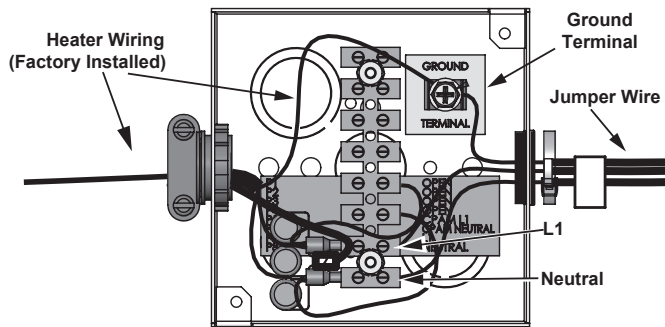
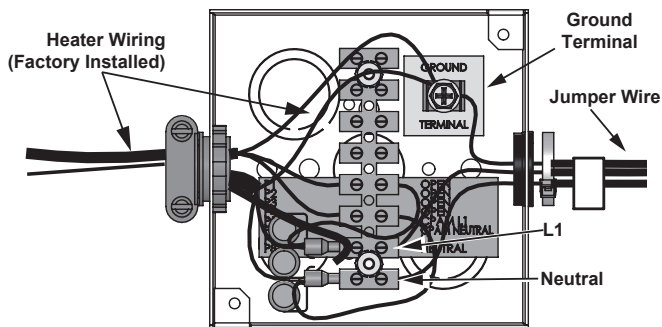

Figure 61. Junction Box (250 Gallon Models)
Figure 62. Junction Box (220 Gallon Models)
The 120-VAC hot wire from the power supply must connect to the black jumper wire or the "L1" terminal block location in the junction box and the 120-VAC neutral wire must connect to the white jumper wire or the "Neutral" terminal block location in the junction box for correct polarity. See **Figure 61** and **Figure 62**.
3. Connect the 120-VAC hot wire from the power supply to the black jumper wire or the terminal block location marked "L1" inside of the junction box located on top of the water heater. If the black jumper wire is used, make the connection inside of the junction box with a properly-sized wire nut. Wrap electrical tape around the wire nut and wire end. See junction box **Figure 61** and **Figure 62** and the wiring diagram **Wiring Diagrams** (page 100).
4. Connect the 120-VAC neutral wire from the power supply to the white jumper wire or the terminal block location marked "Neutral" inside of the junction box located on top of the water heater. If the white jumper wire is used, make the connection inside of the junction box with a properly sized wire nut and wrap electrical tape around the wire nut and wire end. See junction box **Figure 61** and **Figure 62** and the wiring diagram **Wiring Diagrams** (page 100)
5. Connect the ground wire from the power supply to the grounding lug inside the junction box. See junction box **Figure 61** and **Figure 62** and the wiring diagram **Wiring Diagrams** (page 100).
4. Wait five (5) minutes for any residual gas to clear.
5. Connect the manometer to the supply gas pressure port on the gas valve. See **Figure 62** (page 53).